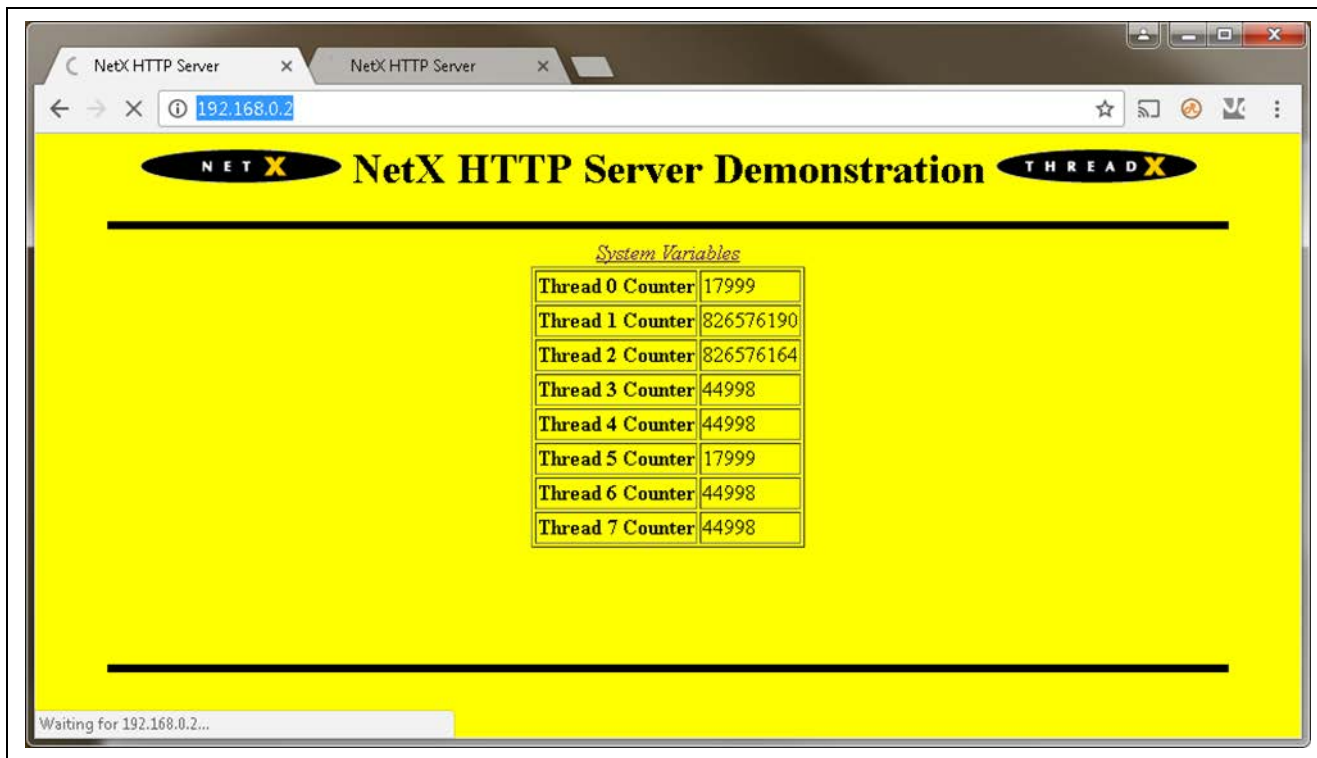

Figure 10. HTTP Webpage
2. In a web browser, enter the IP address that you used with the `ping` command in the previous step in the text field where you normally type a URL, such as `www.google.com`. You should see the view in Figure 10.